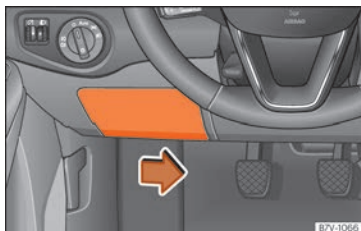

Fig. 58 On the driver's side dashboard: fuse box cover.
- To remove the cover, move the activation lever in the lower part to the right »» **Fig. 58**.